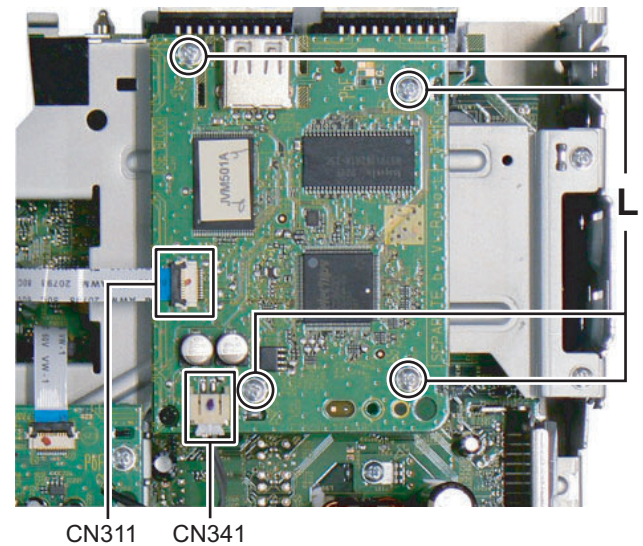

Fig.10
3.1.5 Removing the BT amp board (See Fig.10)